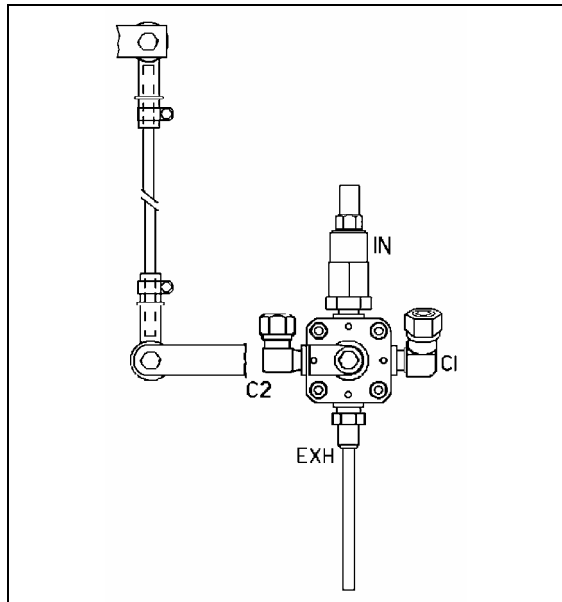

FIGURE 24: ISS FRONT HEIGHT CONTROL VALVE 16100
2. Loosen the clamp on the rubber coupling and bring it up or down (Fig. 24).